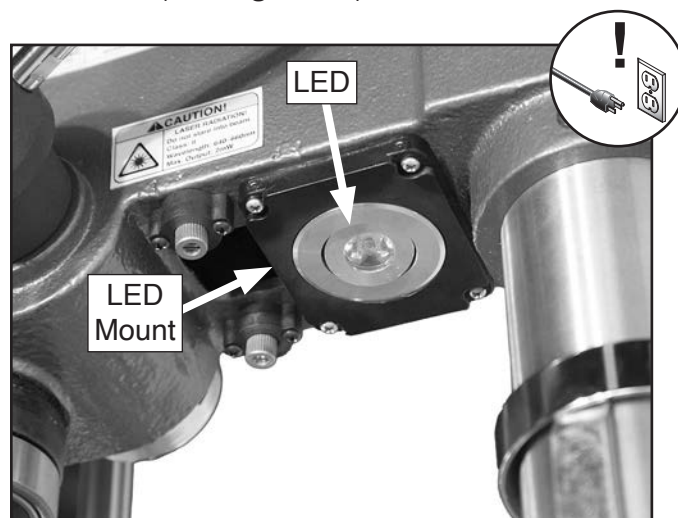

Figure 72. Location of LED and LED mount.
2. Turn LED in mount until it releases from mount (see **Figure 72**).